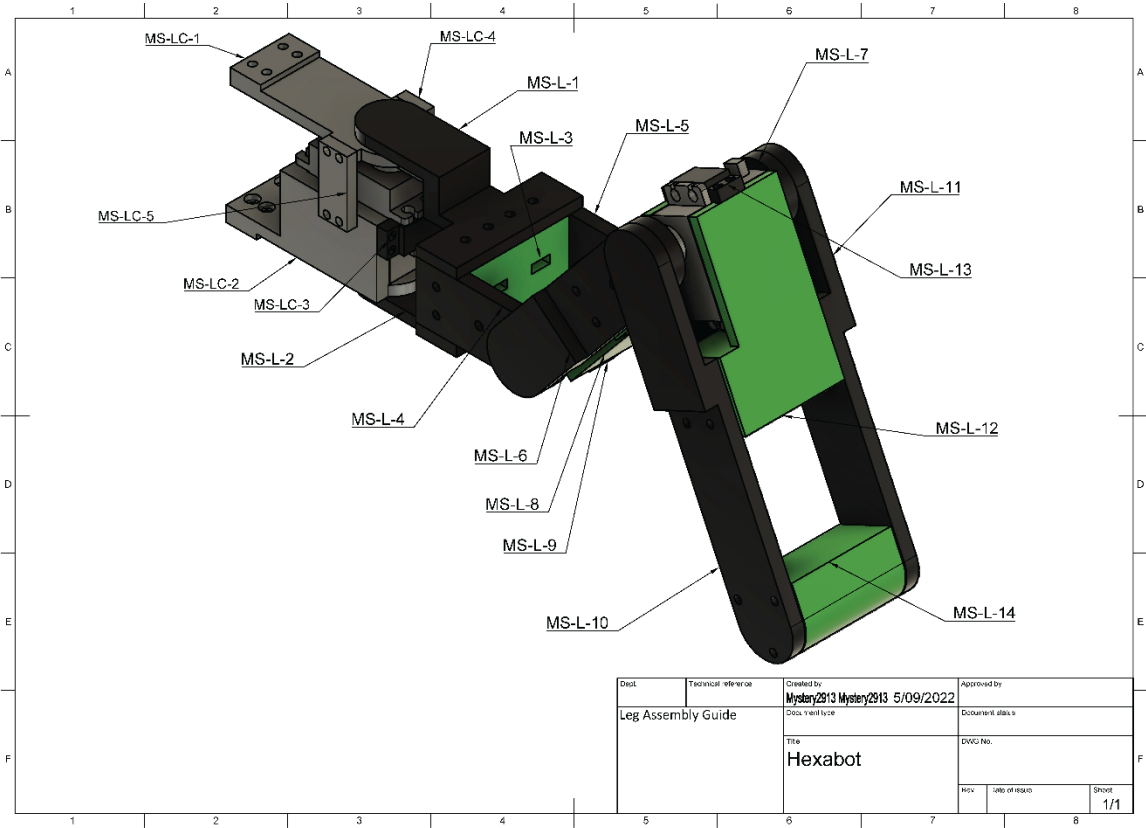
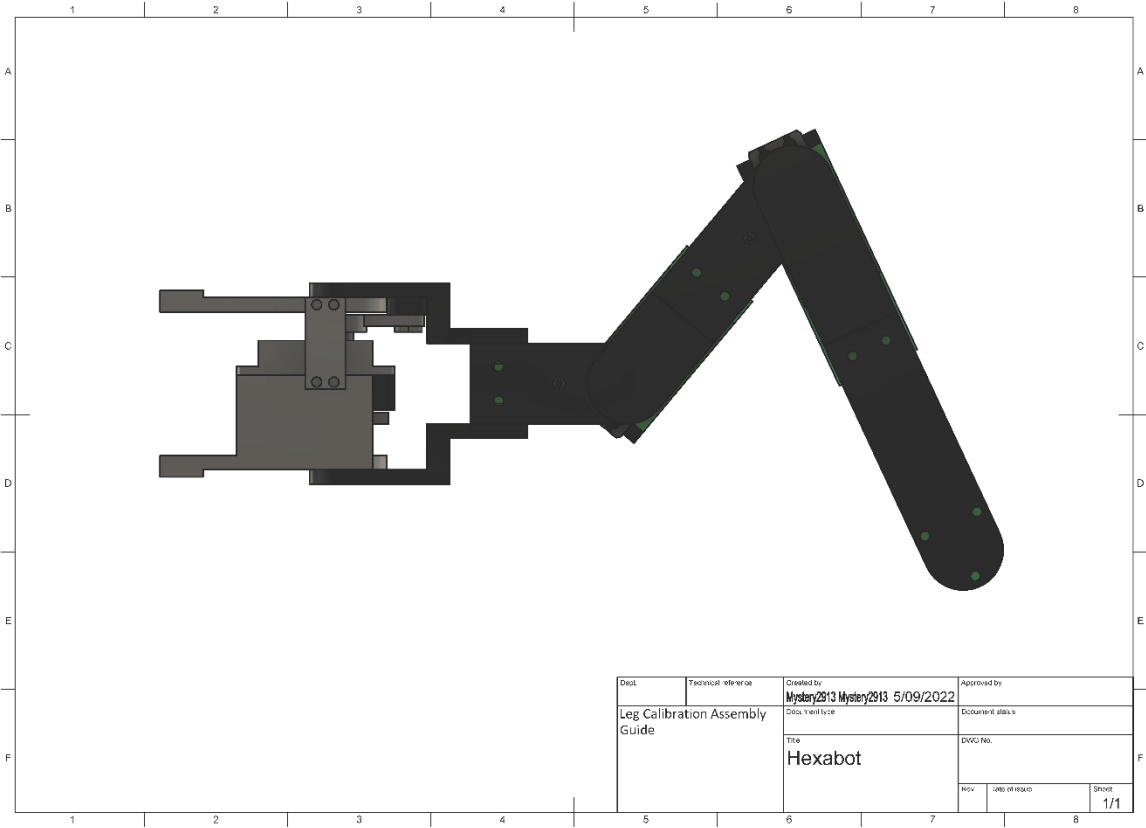

Figure 8 – 10 Leg Assembly
Figure 9 – 10 Leg calibration Assembly
Follow the steps as instructed below, as well as referring to **Figure 8** and **Figure 9**.
7. After calibration is complete, take the servo arm and place it onto the motor axle. This is done by placing the assembled leg so far on to **Figure 9** and aligning the motor arm so that it is parallel to the next section of the arm. Use a screw to attach the motor arm to the next section of the leg.